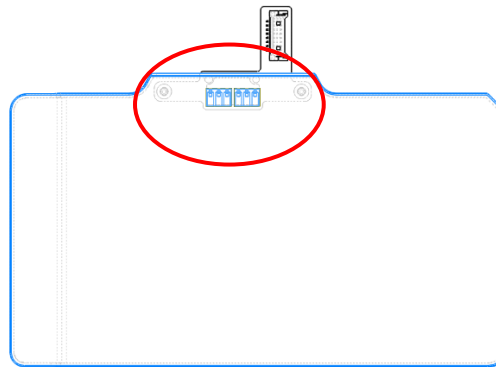

FIG. 3C: BATTERY MOUNTED ON BOARD
- Place the battery on the DOCK connection on the system with the smooth side up and the tab facing the center of the system. Please make sure that the contacts from the battery to the board are lined up properly (refer to Fig. 3C for visual reference).